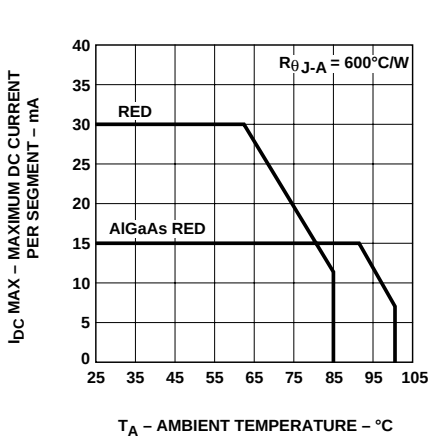

Figure 3. Maximum Allowable DC Current vs. Ambient Temperature. $T_{JMAX} = 100^\circ\text{C}$ for Red and $T_{JMAX} = 110^\circ\text{C}$ for AlGaAs Red.
- Derate maximum DC current for Red above $T_A = 62^\circ\text{C}$ at 0.79 mA/ $^\circ\text{C}$, and AlGaAs Red above $T_A = 91^\circ\text{C}$ at 0.8 mA/ $^\circ\text{C}$. See Figure 3.